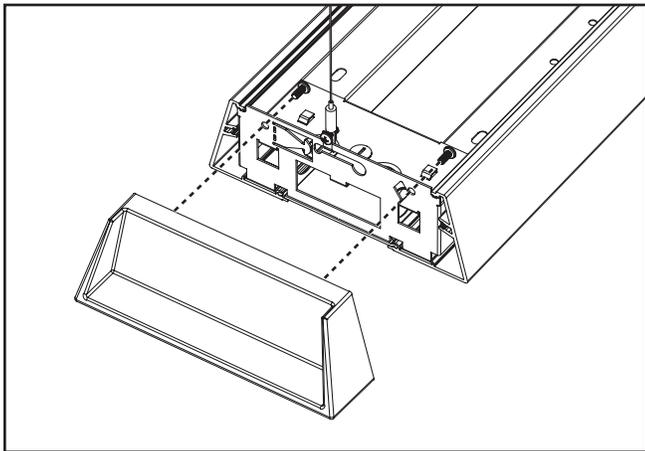

Figure 9.
- End Cap: Slide into end of fixture and secure with two 10-32 x 3/8" self-tapping screws. (Figure 9.)